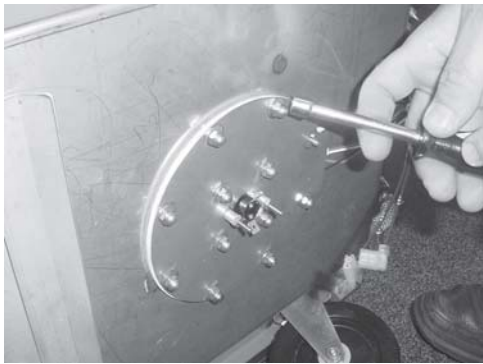

Figure 3-46
5. Remove the nuts securing the water heater plate and high limit, and pull high limit, plate, insulation and water pan heater from the unit. Figure 3-46.